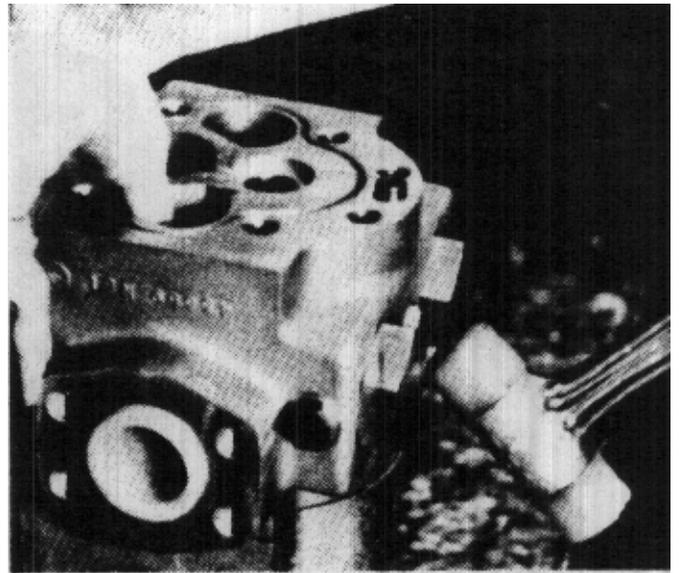

FIGURE 87
19. Remove the valve body by tapping lightly on the plugs (39) with a soft hammer. (Fig 87)